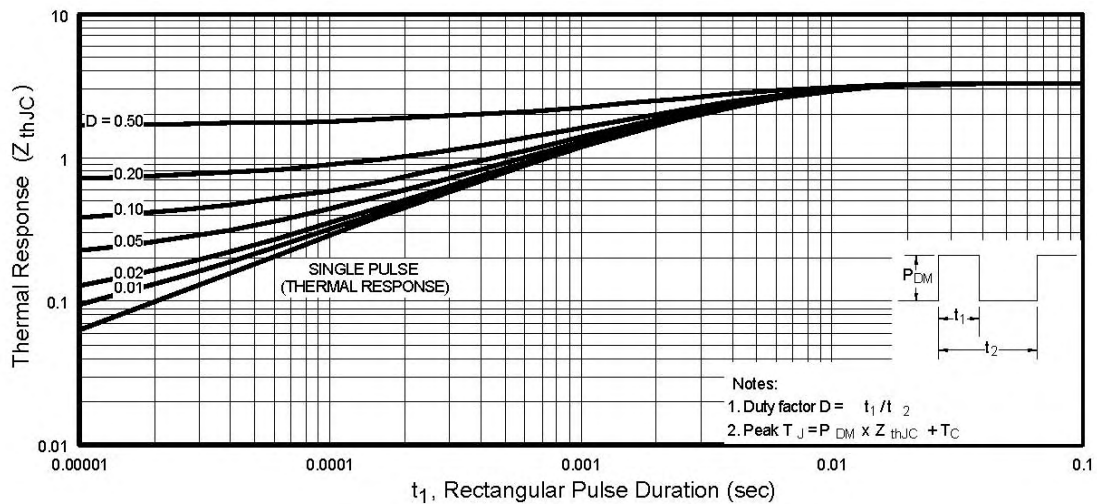

Fig 11. Maximum Effective Transient Thermal Impedance, Junction-to-Case
① Repetitive rating; pulse width limited by max. junction temperature. (See fig. 11)
② Starting $T_J = 25^\circ\text{C}$, $L = 2.8mH$